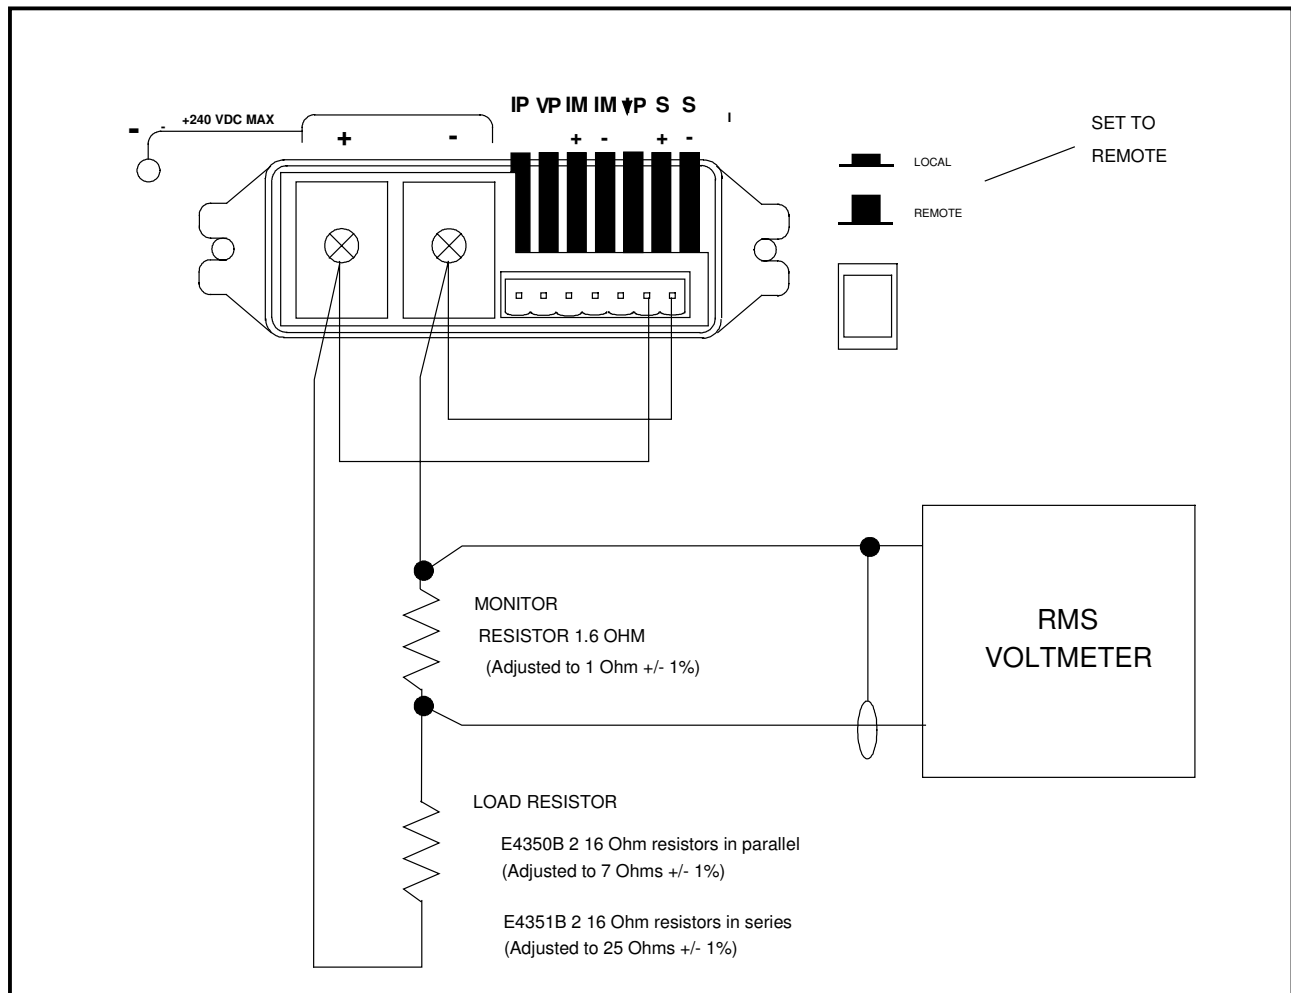

Figure 2-3. CC RMS Noise Measurement Test Setup
- CC RMS Noise Measurement Setup (Figure 2-3)
* Enter your results in this column ** PARD (Optional Test in SAS mode) Program I – V Curve: $I_{SC} = 8A$ $I_{MP} = 7.5A$ $V_{MP} = 60V$ $V_{OC} = 65V$ $R_L = 8\text{ Ohms}$. Use Fig 2-3 with scope across monitoring resistor for P-P ripple or RMS voltmeter for RMS.
* Enter your results in this column ** PARD (Optional Test in SAS mode) Program I – V Curve: $I_{SC} = 4A$ $I_{MP} = 3.75A$ $V_{MP} = 120V$ $V_{OC} = 130V$ $R_L = 32\text{ Ohms}$. Use Fig 2-3 with scope across monitoring resistor for P-P ripple or RMS voltmeter for RMS.